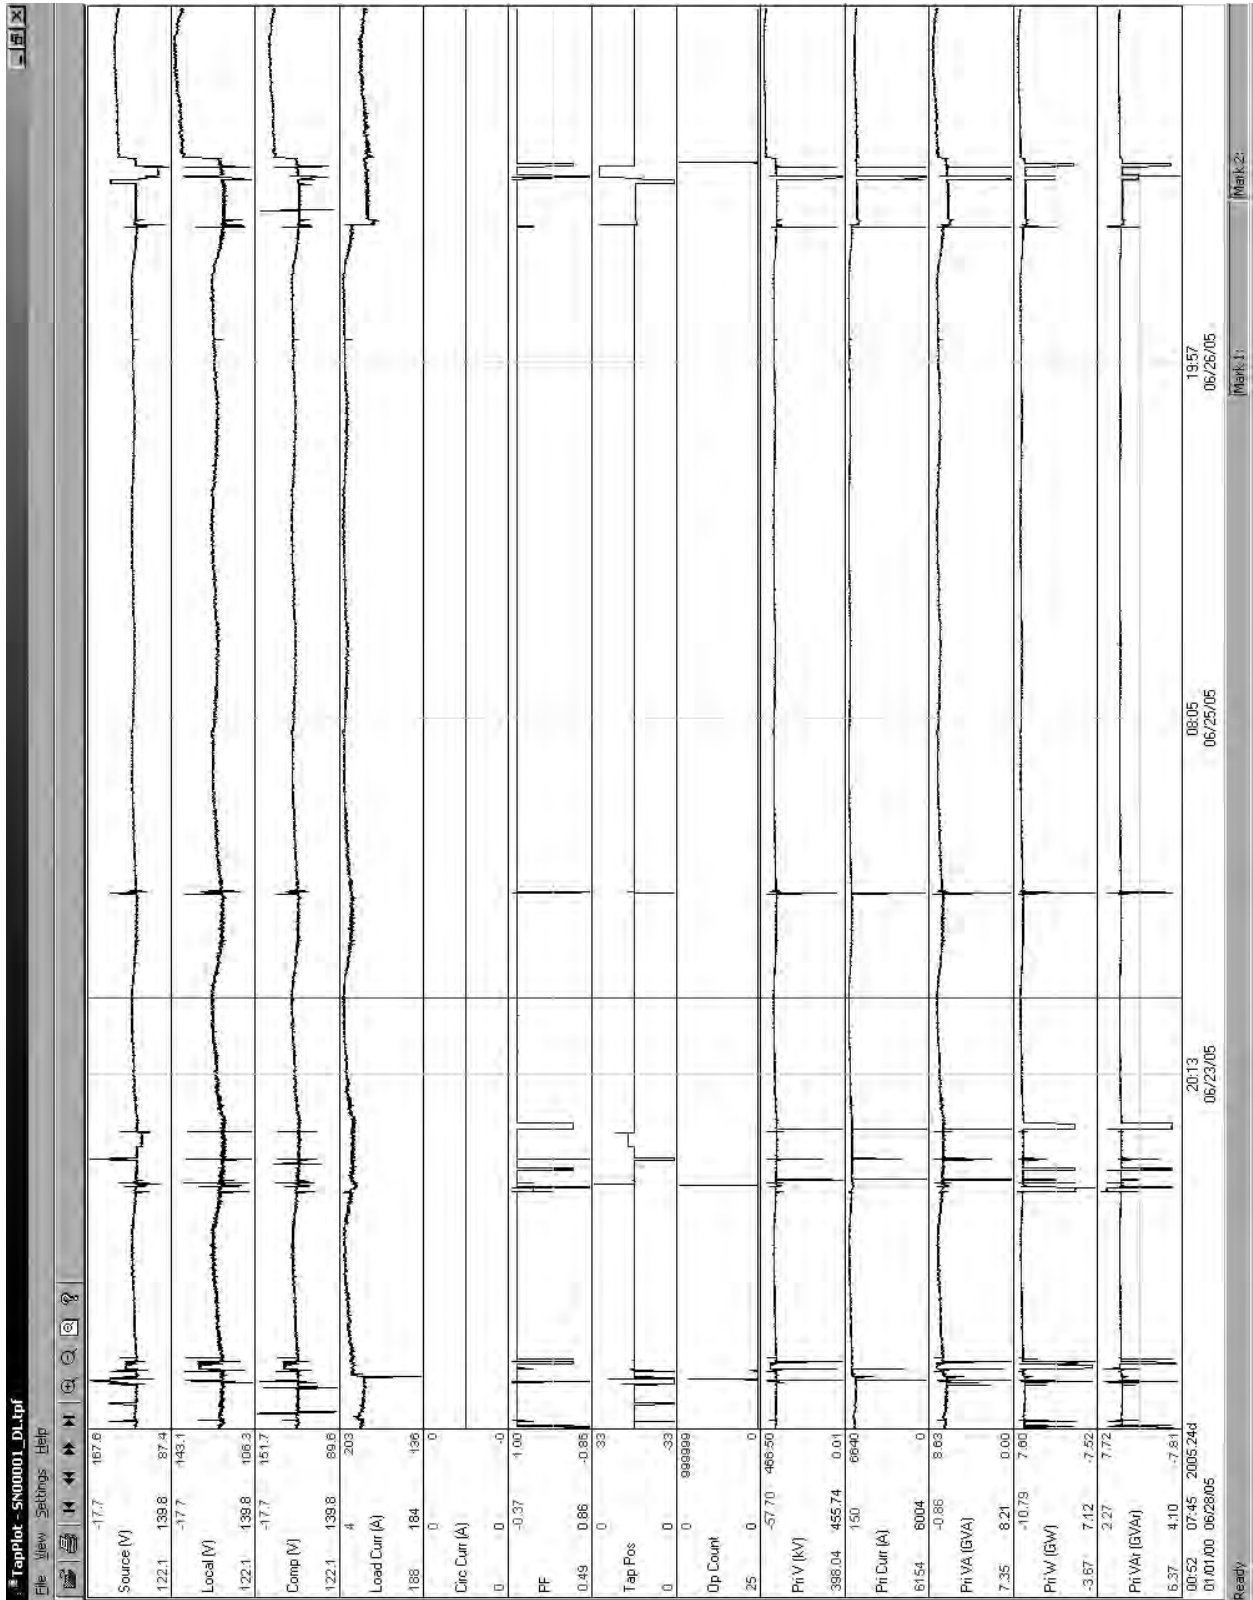

Figure 9-40 TapPlot® Window and Tap Data Example
1. Select the TapPlot program-item icon from the Becoware group in the Program Manager, or select TapPlot from the program list using the **Start Menu**. The TapPlot Window and Toolbar is displayed (Figure 9-40).
3. Open the file. TapPlot should display the saved data, as shown in Figure 9-40.
When TapPlot is started, a menu and tool bar are displayed (see Figure 9-40). This section describes each TapPlot menu selection and explains each TapPlot command in the same order that they are displayed in the software program. Figure 9-42 presents the TapPlot Menu and Submenu Callouts.